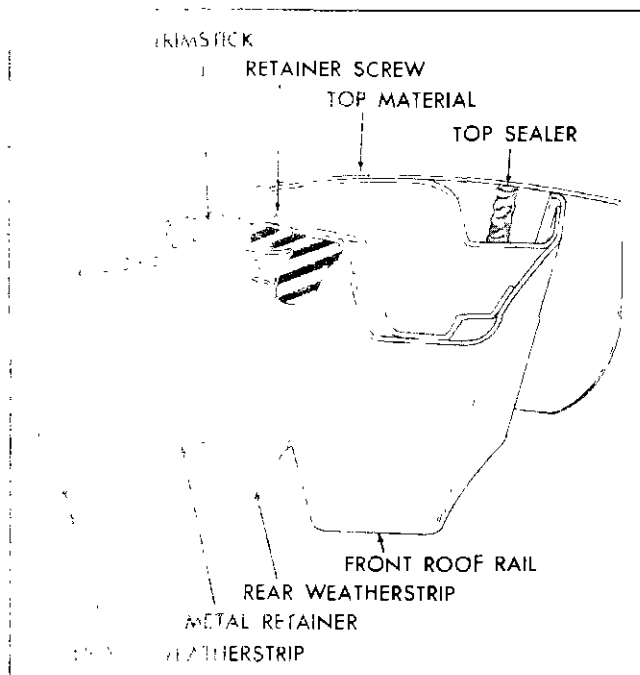

Fig. 7-21 Front Roof Rail Sealing
3. At front of body, raise front roof rail, remove retainers and front weatherstrips and detach top material from front roof rail (Fig. 7-21).